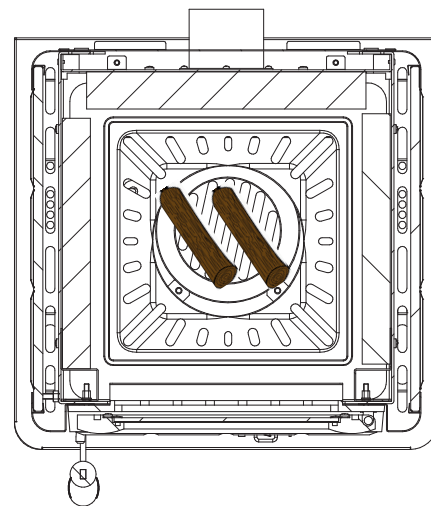

Fig. 7.4
- Refill the fire box with fuel and then close the fire door. For an optimal disposition of the fuel inside the fire box, refer to the Fig. 7.4.